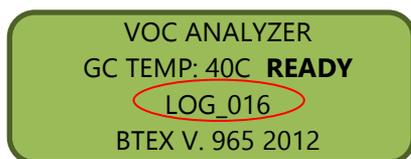

Figure 4.7-1: FROG-4000™ display screen at the beginning of a sample run.
4. The computer screen now displays a list of sequential files named “LOG_XXX”. The file names are created and assigned by the instrument. They appear on the instrument screen at the *beginning* of each analysis cycle as shown in Figure 4.7-1.